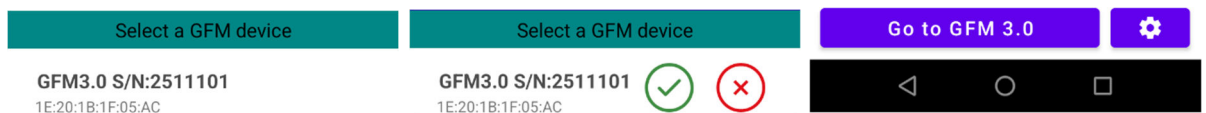

Figure 30 – Home page Figure 31 – Connected Figure 32 – Go to GFM
1. Open the GFM 3.0 app on the phone. Select the previously paired GFM from the start page. (Figure 30).